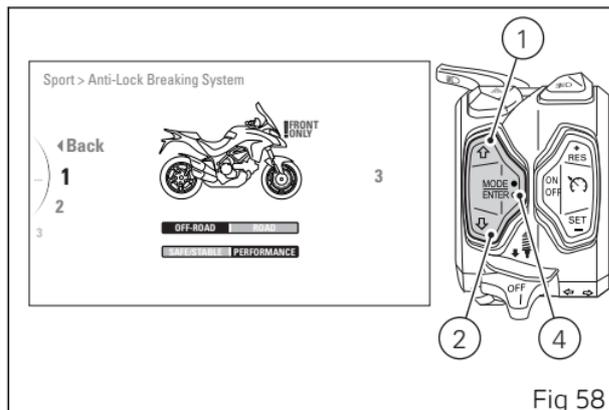
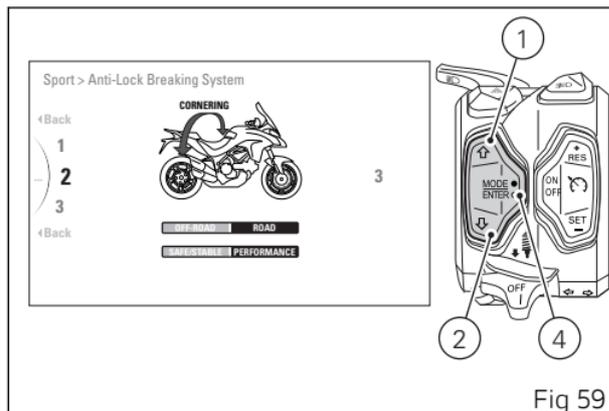

Fig 58
Fig 59
With buttons (1) and (2) select the new level of intervention desired. For each highlighted level, the corresponding paired value in the central table (highlighted with a black background) will be displayed. Furthermore, the braking system intervention level is indicated in Light Blue: the indication "**!FRONT ONLY**" (Fig 58) only for the front active brake, the indication "**CORNERING**" (Fig 59) for the active Cornering function. Once the desired level is highlighted, press button (4) to memorise the new selection. To exit the menu and go back to previous page highlight the "**◀ Back**" indication and press button (4).